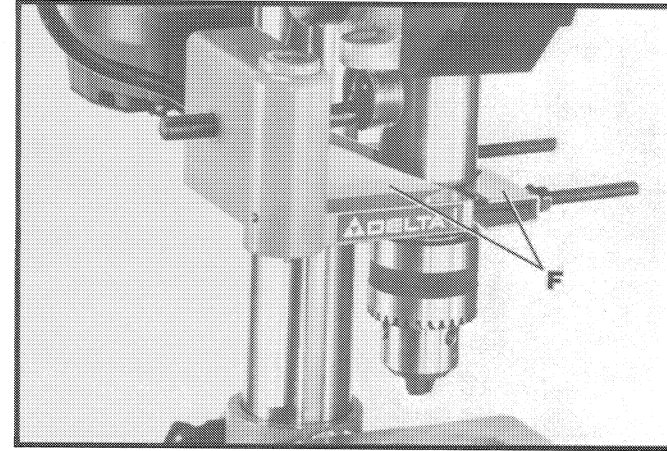

Fig. 7
7. Assemble the gear box and mounting bracket (F) Fig. 7, to bottom of spindle as shown. **NOTE:** Mounting bracket (F) Fig. 7, should straddle collar (M) Fig. 8, on spindle assembly.